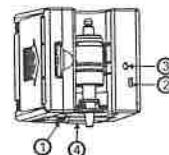

FIGURE 2
2. Close the cover and the LED will flash 3 times indicating the dispenser is ready for use. Place hand(s) underneath dispenser within 5" of the sensor, the dispenser will dispense approximately 0.4ml of soap into your hand(s). If additional soap is needed, open the cover and put the toggle switch (figure 2) to 2 or 3, the dispenser will work 2 or 3 times. The LED will flash until the dispenser finishes.